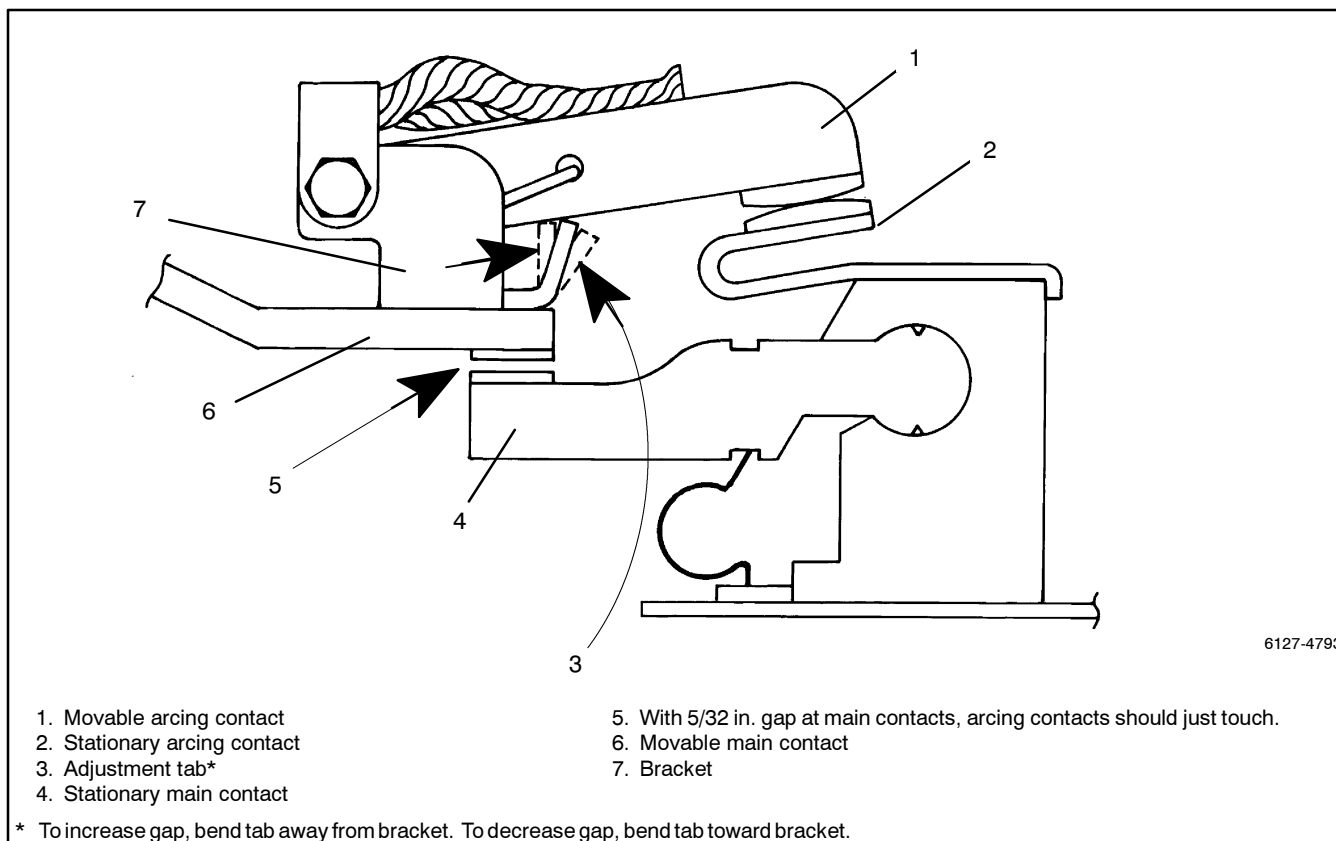

Figure 9-6 Arcing Contact Adjustment (side view).
3. Check the main contact gap. When installing a new arcing contact assembly, a gap of 5/32 in. between the main contacts is automatically obtained when the arcing contacts just touch. However, if a minor adjustment is necessary to obtain this gap, bend the adjustment tab on the arcing contact assembly. Refer to Figure 9-6 for instructions on tab adjustment.